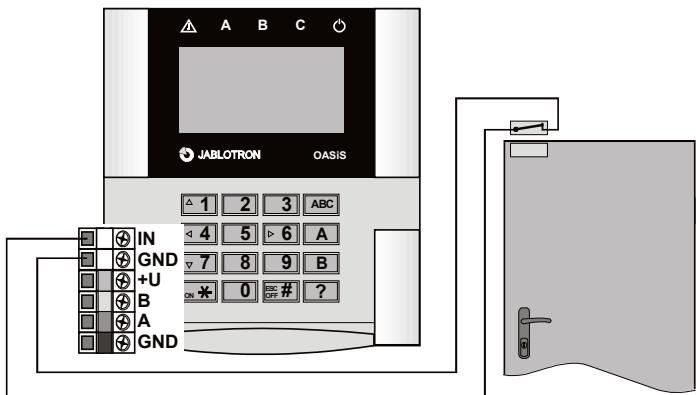

fig. 2 An example of door detector wiring
4. Install the external door detector (if required) and connect its cable to the IN and GND terminals. See fig. 2.